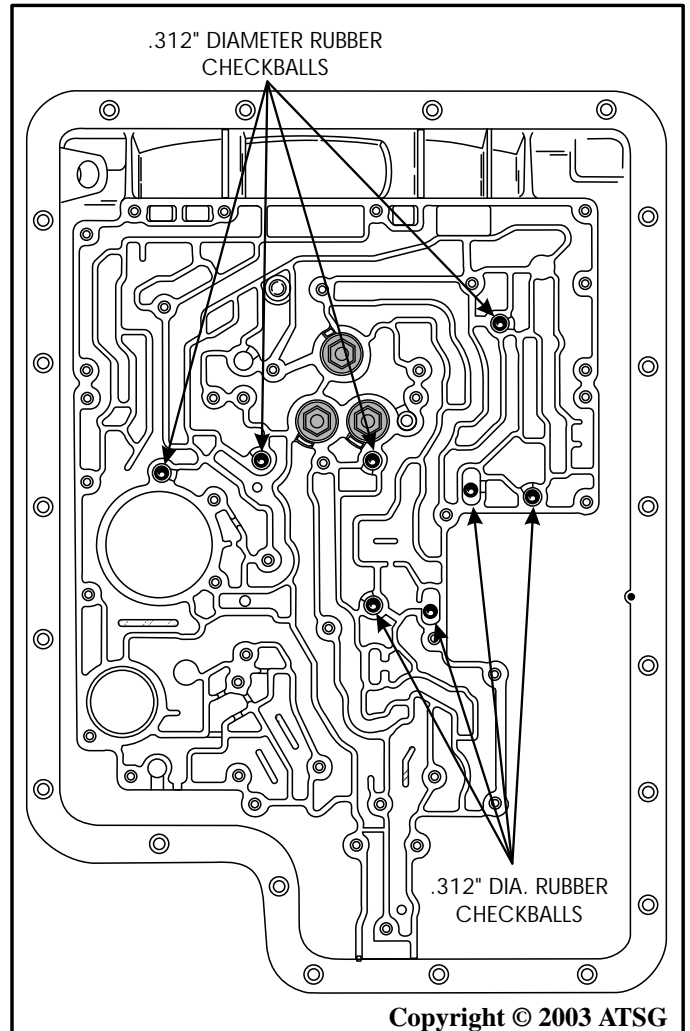

Figure 55
16. Remove the eight checkballs from their case pockets, as shown in Figure 55, using a small screwdriver.